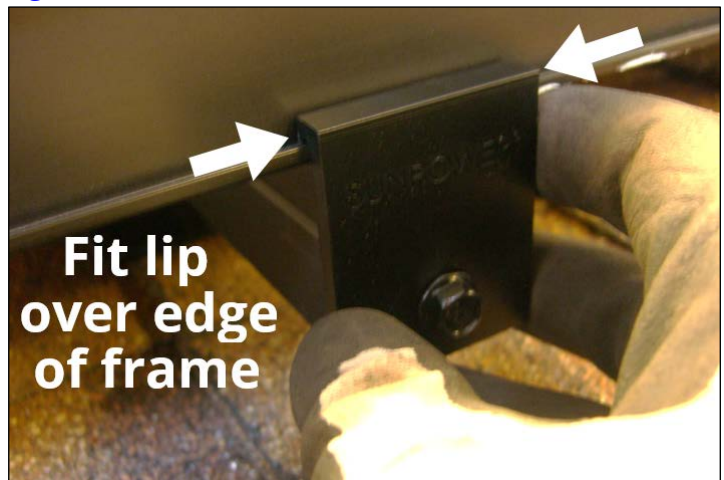

Fig. 17
4. Fit the top lip of the cover up and over the bottom edge of the module frame (Fig. 17). Do this for both end clamps.